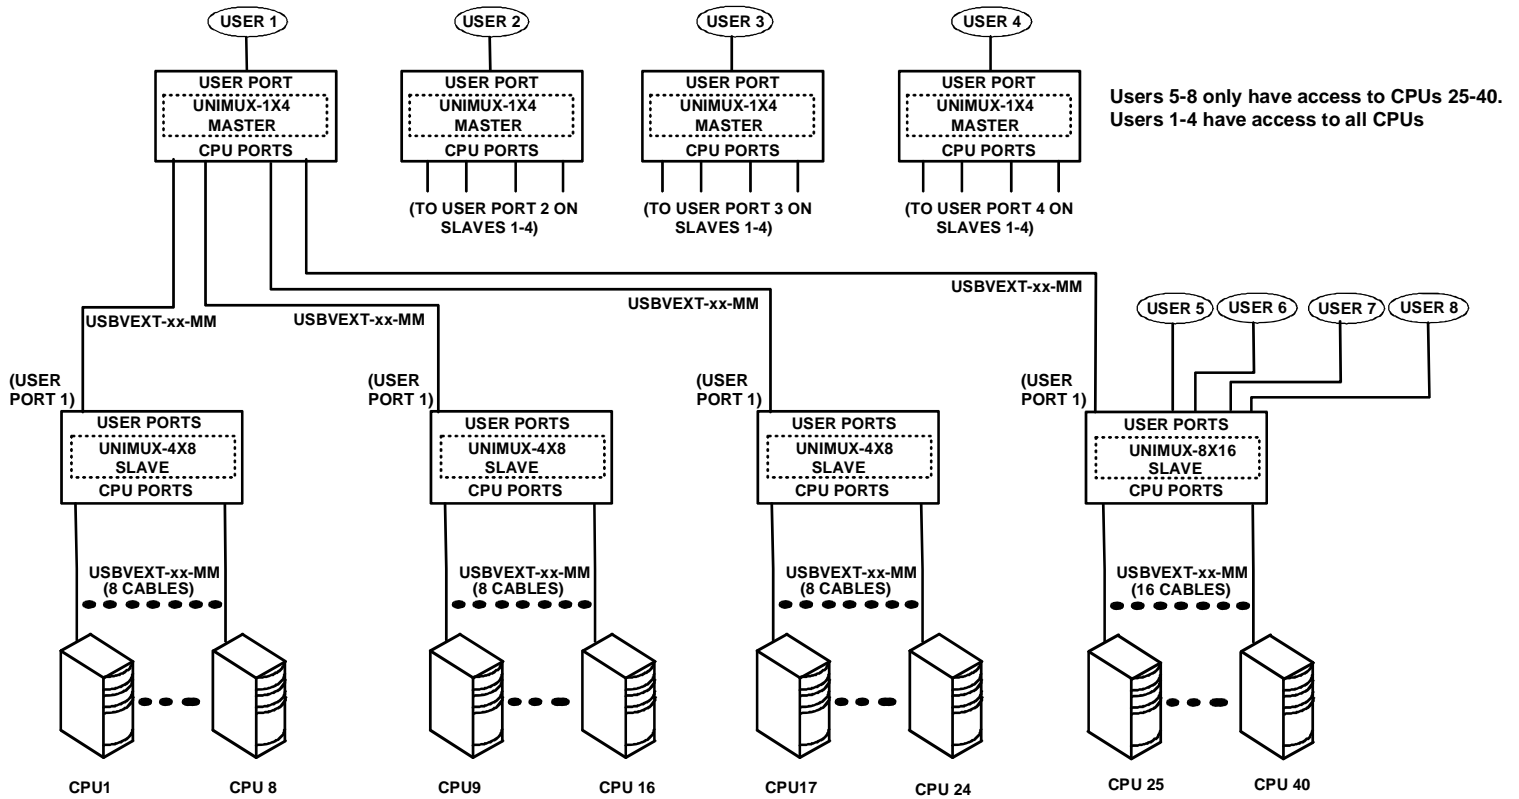

Figure 25- Cascaded configuration with single-user masters
**Exception:** If the master is a single user UNIMUX switch, slaves connected downstream can be any size multi-user UNIMUX switch (see Figure 25).
Repeat this procedure for each USER and MONITOR port on the slave that is desired to be controlled through the master. Any USER and MONITOR ports that do not get connected to the master can be connected to by users. Users connected to a slave downstream from the master will control only the CPUs directly connected to that slave switch (i.e. users 5 and 6 in Figure 25 can only control CPUs 25-40).